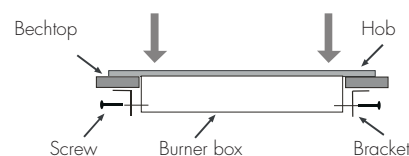

Fig. 2B
6. **Retaining brackets** – (Refer to Fig 2B)